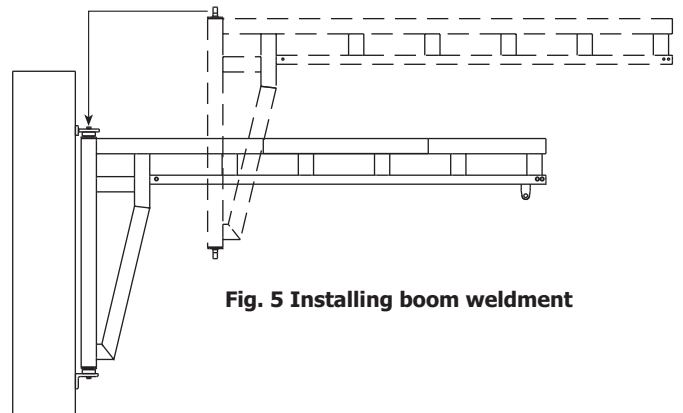

Fig. 5 Installing boom weldment
- 7 Raise jib arm weldment and insert lower pivot pin into lower mounting bracket assembly (fig.5).